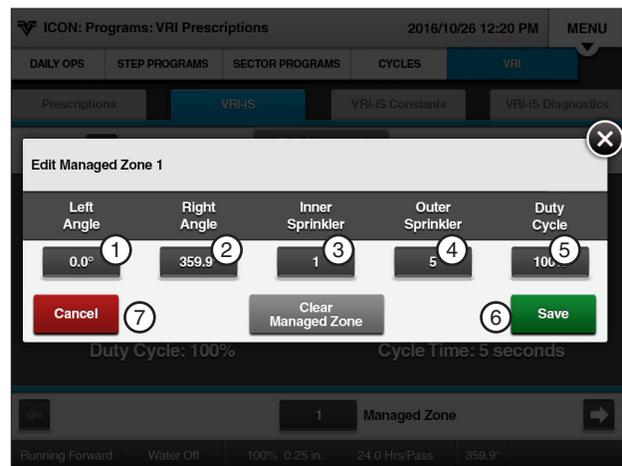

Figure 174-2 1. Left Angle 5. Duty Cycle
6. Select the **Left Angle** field and enter the Left Angle using the numeric keypad. Refer to Figure 174-2.